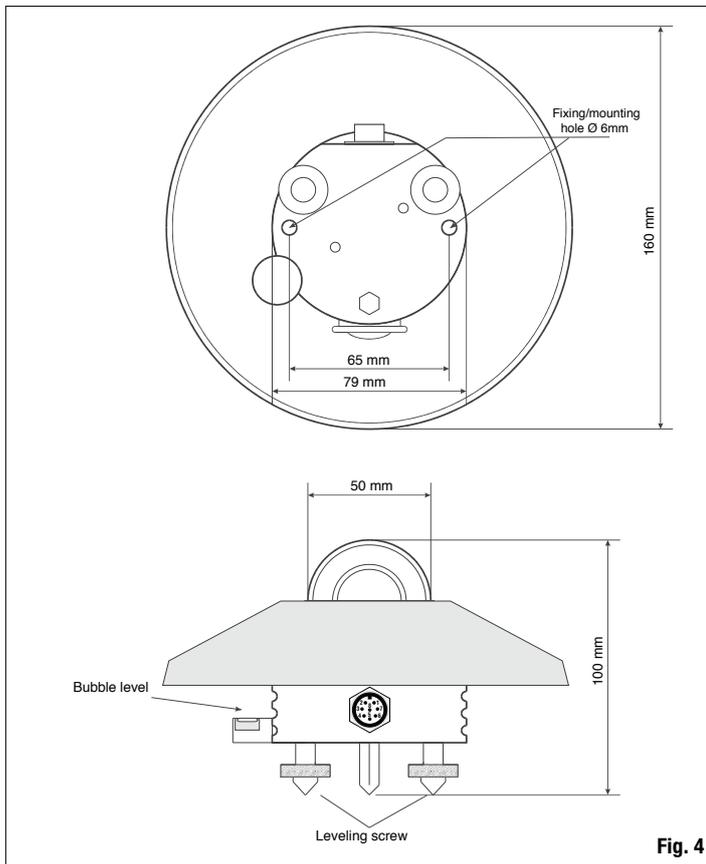

Fig. 4
- For accurate horizontal positioning, the LP UVA 02 radiometer has a bubble level, the adjustment is by means of two screws with adjusting nut for adjusting the angle of the radiometer. The fixation on a plane can be performed using the two holes of 6mm diameter and spacing of 65 mm. To access holes to remove the screen and reposition it after mounting, see figure 4.